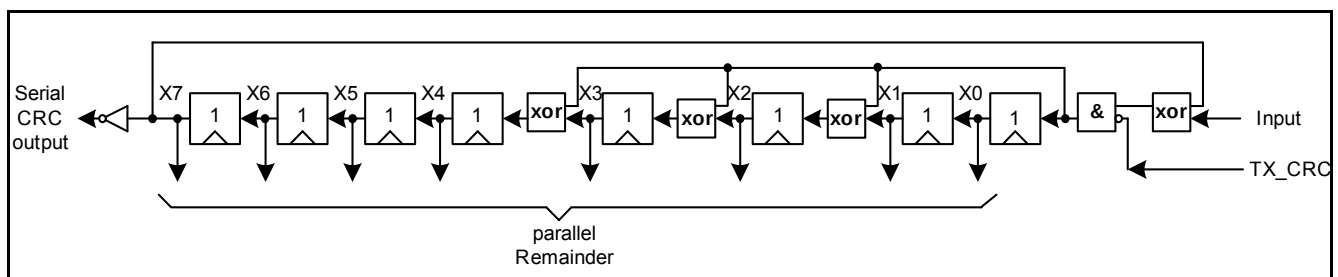

Figure 21 Fast CRC polynomial division circuit
- Generator polynomial: $X^8 + X^4 + X^3 + X^2 + 1$, but for the CRC generation the fast CRC generation circuit is used (see Figure 21)